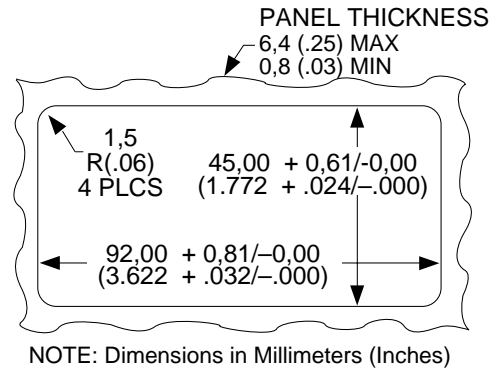

Figure 3-3. Panel Cut-Out
1. Cut a hole in your panel according to the dimensions specified in Figure 3-3.
1. Install jumper S4 to enable the calibration procedure (refer to Figure 3-3).